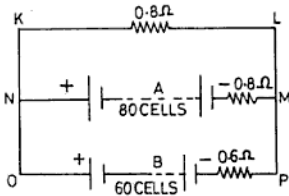

Fig. NE 9.27
- 9.27 Two batteries *A* and *B* are connected in parallel and supply to the circuit shown in Fig. NE 9.27. Battery *A* consist of 80 cells and battery *B* of 60 cells connected in series. The emf and internal resistance per cell is 2.5 V and 0.01 Ω respectively. Find the value and direction of current flowing in each battery and in the $6.8\ \Omega$ resistance.